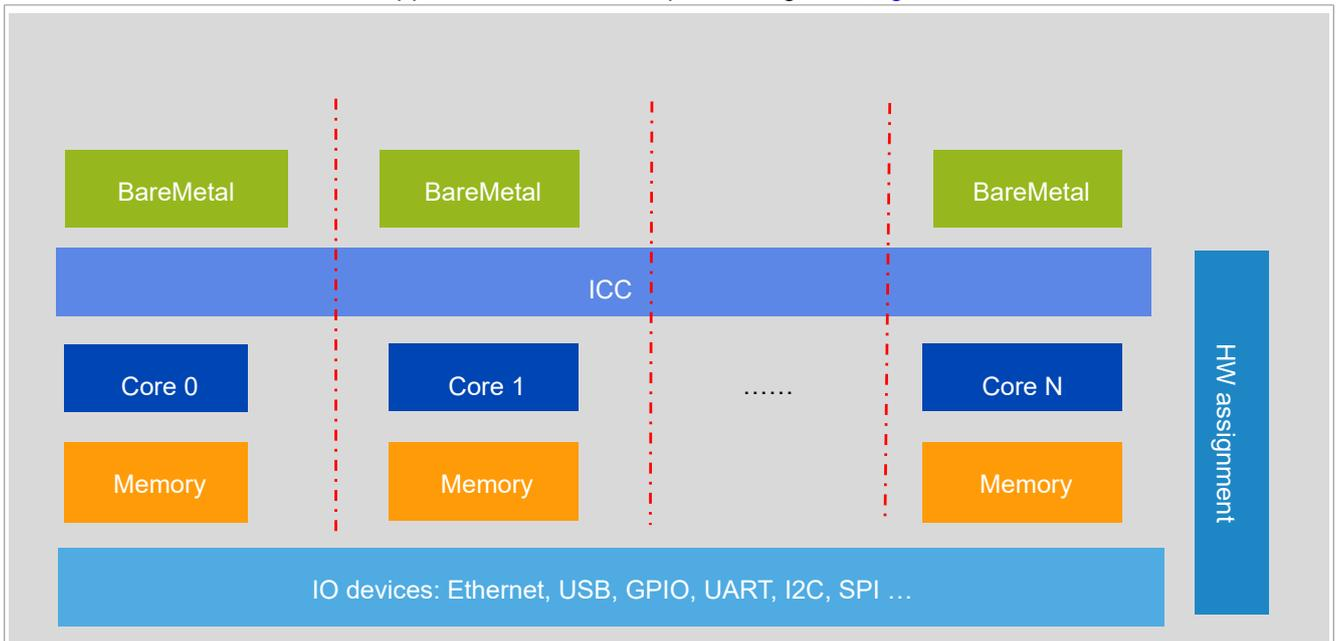

Figure 8. BareMetal Use Case 2
2. All cores run the BareMetal application for real-time processing. See Figure 8.